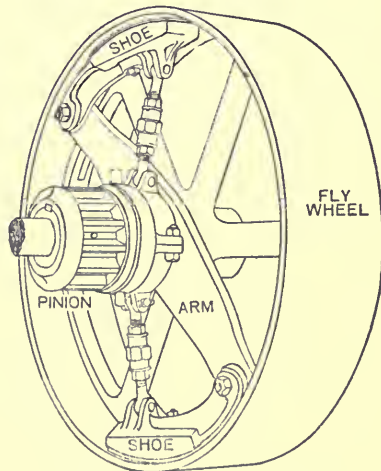
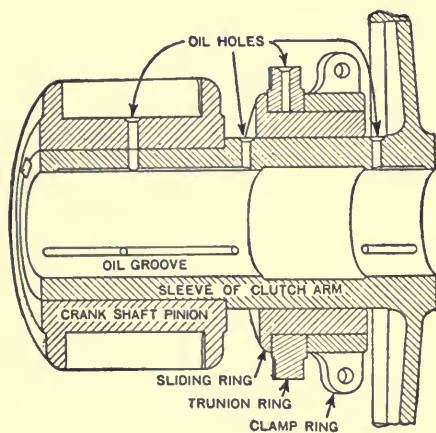

FIG. 38. FRICTION CLUTCH.
FIG. 39. SECTION OF HUB PORTION OF CLUTCH.
*The Friction Clutch.* The friction clutch is used to connect the engine to the traction gearing and wheels. By means of it, the engine may be made to travel as slowly as desired, while the engine proper is running at full speed. A general view of the Case clutch is shown in Fig. 38, with the names of the various parts thereon. An enlarged view of the hub portion is shown in Fig. 39. When the clutch is in partial engagement, the shoes (Fig. 38) press lightly against the rim of the fly-wheel, transmitting only part of its motion to the gearing. But when in
full engagement, the shoes press so hard against the rim of the fly-wheel that they prevent slipping, thus locking the fly-wheel and pinion together. The two shoes are hinged to the ends of the arm. This arm has a long sleeve, which is loose upon the shaft, but at the end of which the pinion is firmly keyed. The sliding ring (Fig. 39), is loose upon the sleeve, and when moved toward the fly-wheel, straightens the toggle levers, thus pressing the shoes